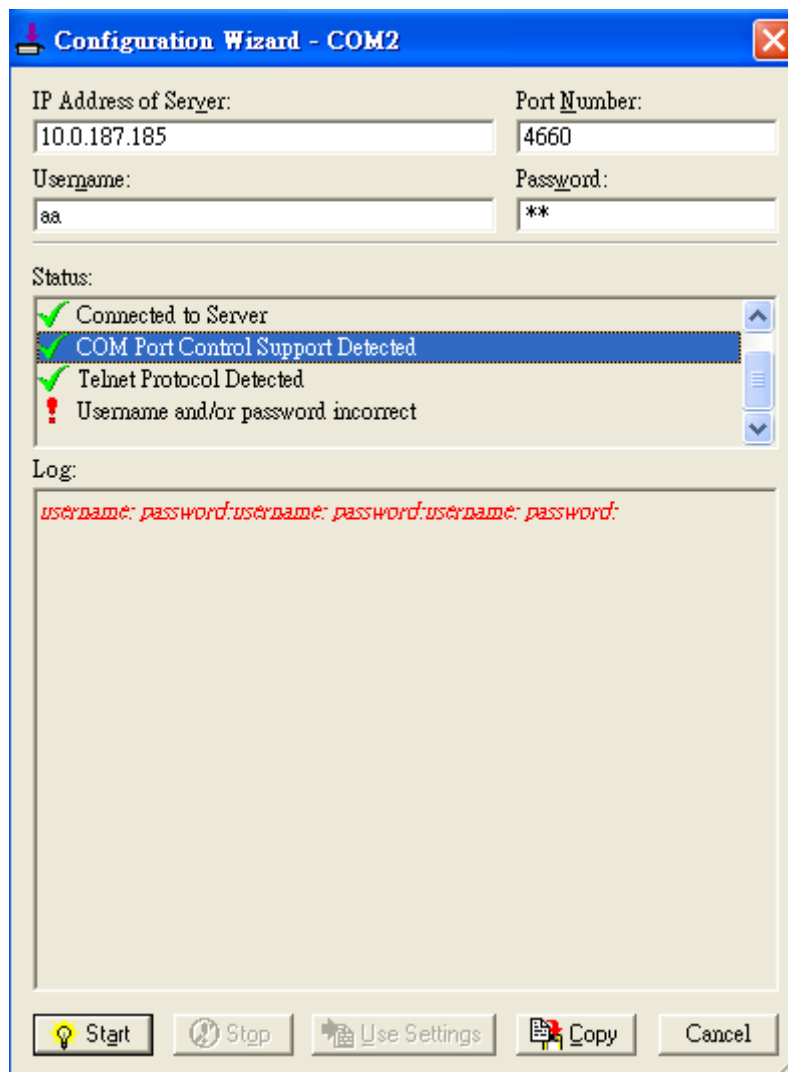

Figure 4.14 Virtual COM Username Password Exception
- e. If the exclamation mark begins with **Username and/or password incorrect** (Figure 4.14), this means the wrong username and/or password was entered and the authentication failed.